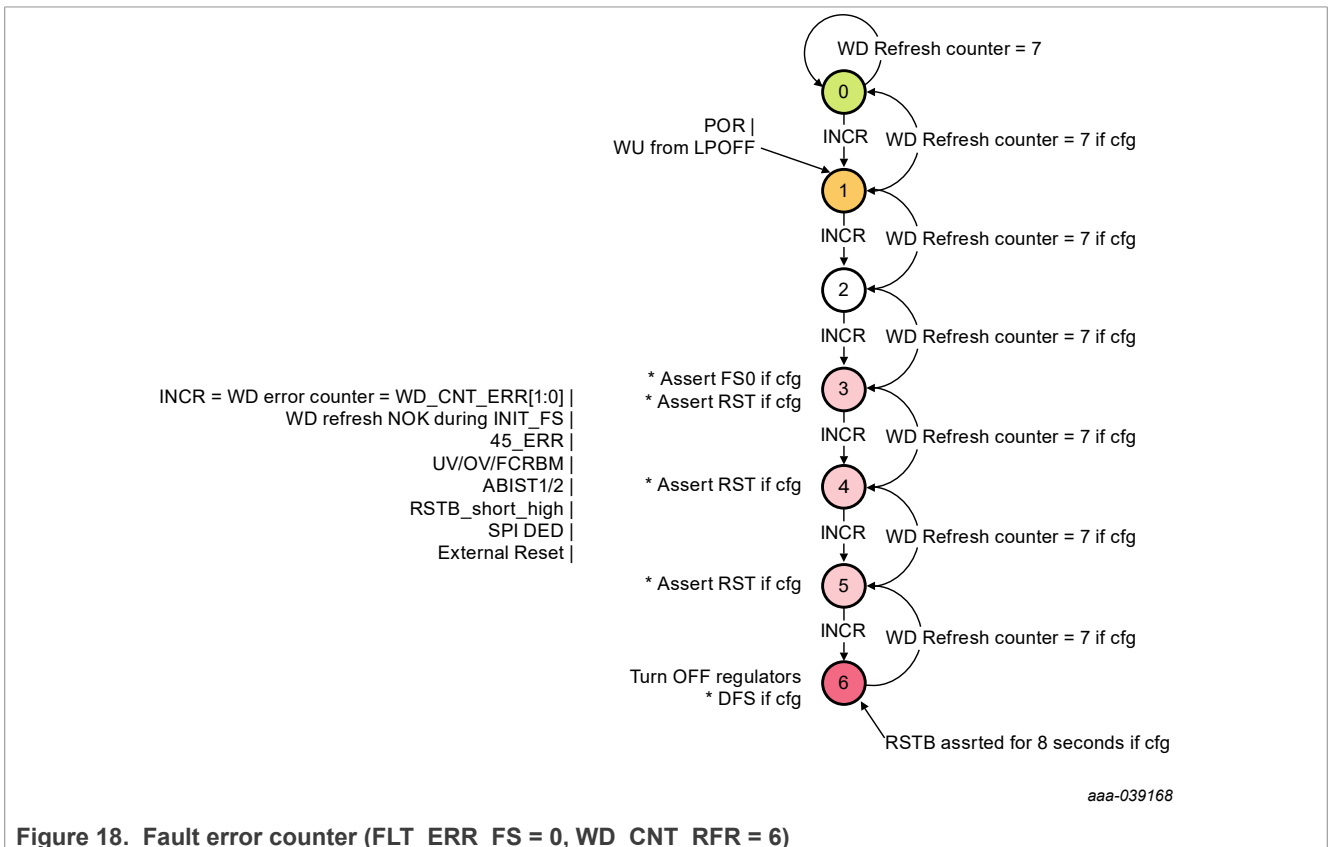

Figure 18. Fault error counter (FLT_ERR_FS = 0, WD_CNT_RFR = 6)
- FLT_ERR_FS = 0/Intermediate = 3; Final = 6 (Figure 18).